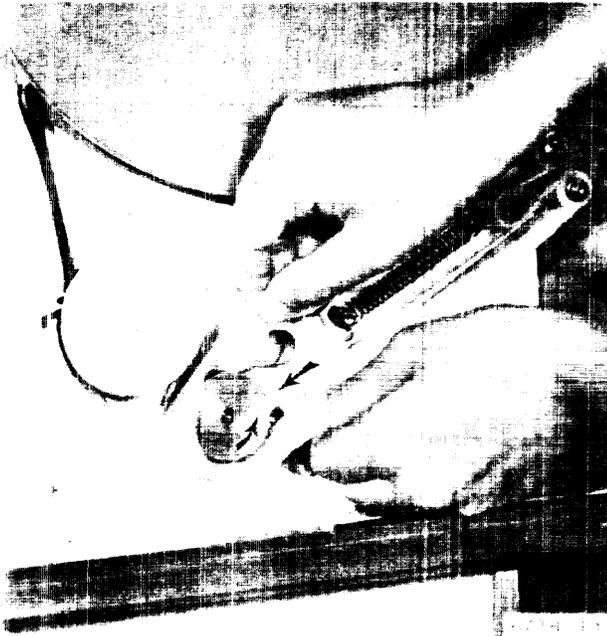

Figure 4-7. Changing Tape Wiper
- (1) Grasp cloth belt as shown in figure 4-7, and pull both sides in direction shown.
- (2) Release belt from drive roller, allow tension spring to retract, and remove belt from wiper assembly.
(3) Thread clean belt on tension rollers, stretch tension spring as in step 1, and slip new belt around drive roller. Be sure nap side of belt is out. Align belt on drive roller.